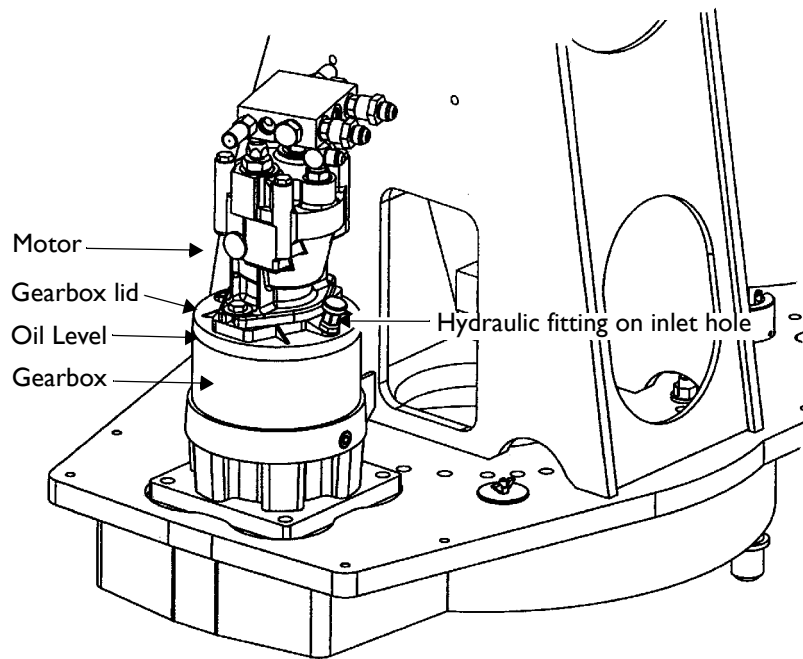

Figure 20
1. Unscrew the hydraulic fitting on the top of the gearbox (see *Figure 20*, below)